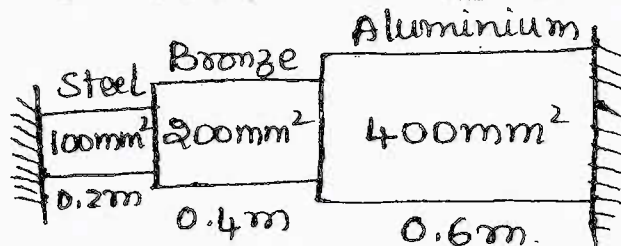

Fig.Q2(b)
- b. A compound bar consisting of steel, Bronze and aluminium bars connected in series is held between two supports as shown in Fig.Q2(b). When the temperature of the compound bar is increased by  $50^\circ\text{C}$ , determine the stresses induced in each bar. Consider the two cases: i) Rigid supports and ii) Supports yield by 0.5 mm. Take  $\alpha_s = 12 \times 10^{-6}/^\circ\text{C}$ ,  $\alpha_B = 19 \times 10^{-6}/^\circ\text{C}$ ,  $\alpha_{AL} = 22 \times 10^{-6}/^\circ\text{C}$ ,  $E_s = 200 \text{ GPa}$ ,  $E_B = 83 \text{ GPa}$  and  $E_{AL} = 70 \text{ GPa}$ .